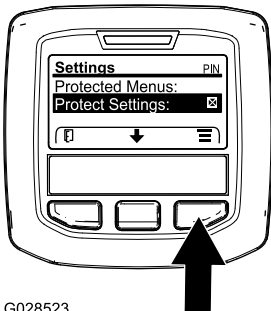

Figure 40
- 1. From the MAIN MENU, use the center button to scroll down to the SETTINGS MENU and press the right button (Figure 40).